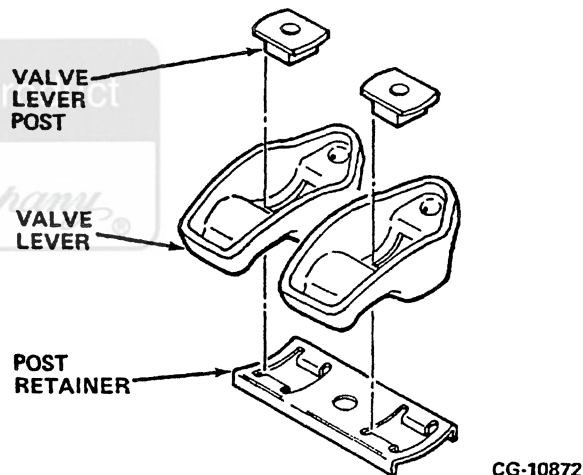

Figure 3.8. Valve Lever Assembly Components
1. If components become dislodged during service, reassemble the valve lever assembly component parts shown in Figure 3.8, as follows: